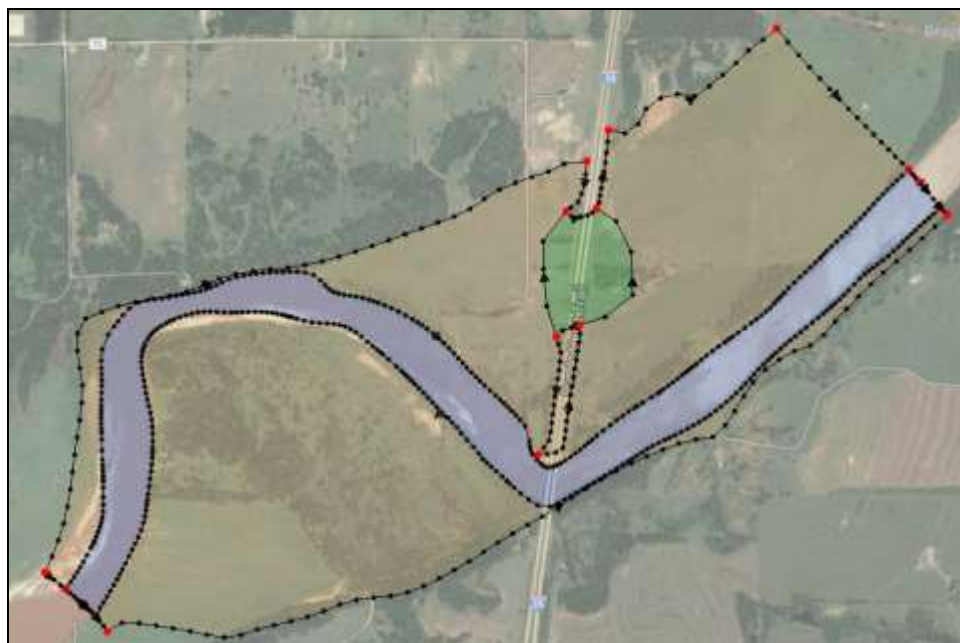

Figure 2 Cohesive sediment material located near the secondary bridge opening (shown in green)
18. Using the **Select Feature Polygon**  tool, double-click on the relief bridge area (as shown in Figure 2) to bring up the *Assign Material* dialog.